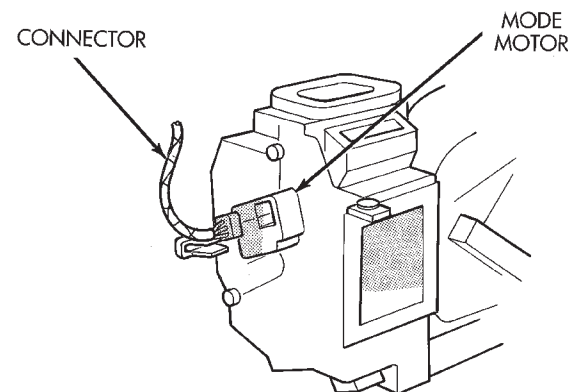

**Fig. 10 Mode Motor Connector**
- (1) Disconnect battery negative cable.
- (2) Remove left underpanel silencer/duct.
- (3) Remove electrical connection on actuator (Fig. 10).
- (4) Remove actuator retaining screws. Then pull actuator straight down. Upon removal, note the shaft position of the actuator, because the shaft on this motor is keyed. When installing new actuator, its shaft must be positioned in the same location.